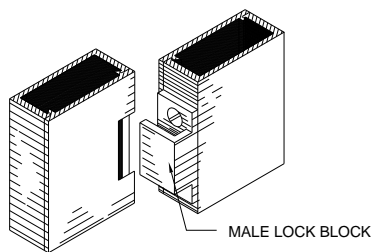

Fig. 5-2
2. Engage the mid-section of the closing channel together with the male lock block. (Fig. 5-2)
6. Snap the caps on all channels using a rubber mallet (Fig. 5-2). The closing channel cap has a notch. This notch must be facing the male lock block for proper operation.